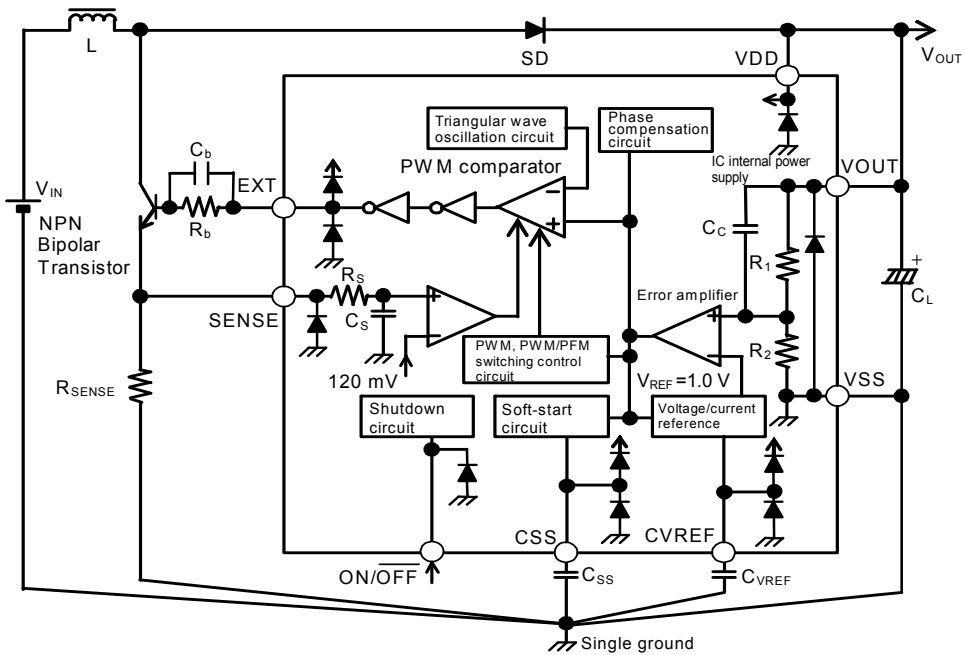

Figure 16 Output Voltage Fixed Output Type
**Figures 16 and 17** in “**Standard Circuits (2) Using Bipolar Transistors**” show sample circuit diagrams using Sanyo Electric Co., Ltd. 2SD1628G for the bipolar transistor (NPN). The driveability for increasing the output current by means of a bipolar transistor depend on the  $h_{FE}$  and  $R_b$  values of that bipolar transistor.
In addition, if a speed-up capacitor ( $C_b$ ) is inserted in parallel with the resistance ( $R_b$ ) as shown in **Figures 16 and 17**, the switching loss will be reduced, leading to a higher efficiency.